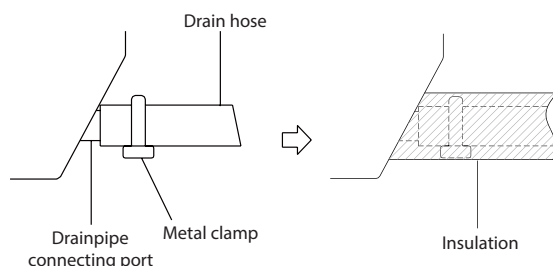

Fig. 6.1
2. Attach the mouth of the drain hose to the unit's outlet pipe. Sheath the mouth of the hose and clip it firmly with a pipe clamp. (Fig 6.1)